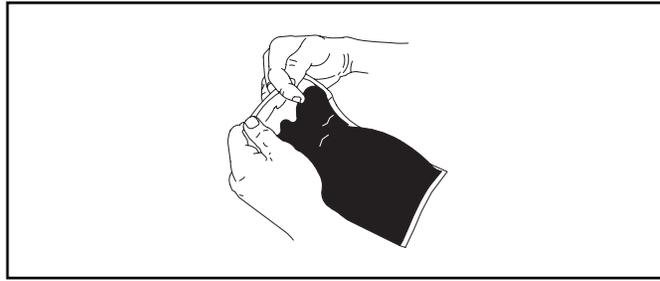

Figure 21
- c. Alternately squeeze ends of closed mixing pouch, forcing compound back and forth; strip compound from corners using fingers. Mix until color is completely uniform - 30-40 VIGOROUS SQUEEZES. DO NOT EXCEED 1 MINUTE. (Figure 21.)